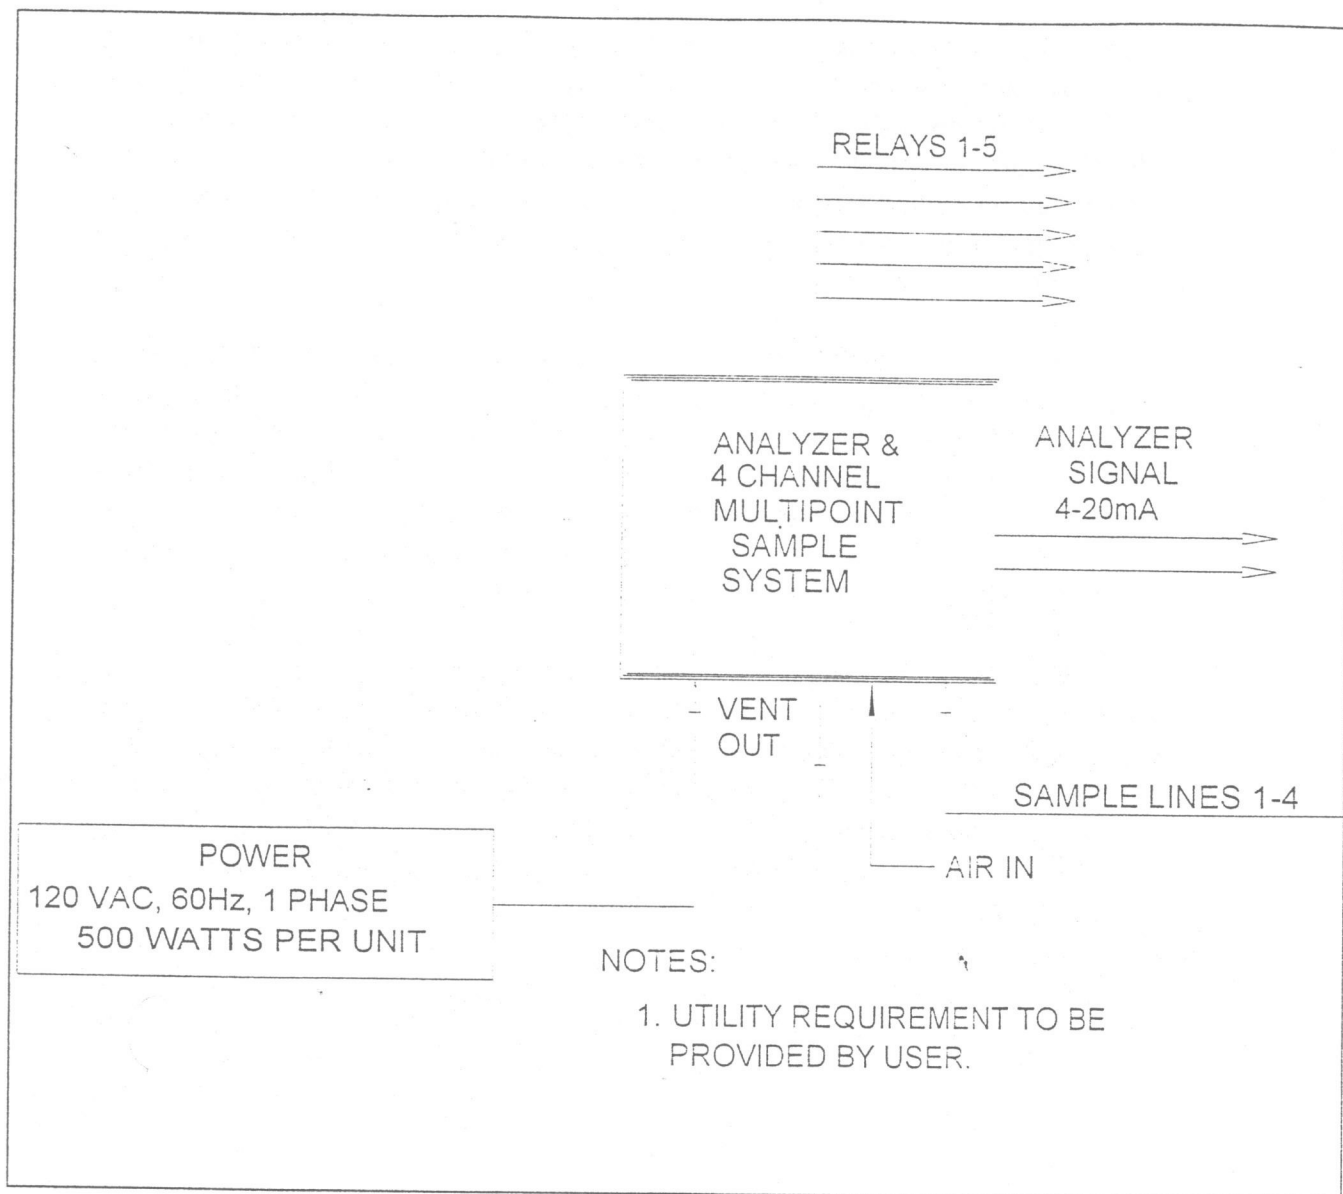

Figure 1.1 BLOCK DIAGRAM OF AS-IMS SYSTEM
The Molecular Analytics (MA) AirSentry Ion Mobility Spectrometry (ASIMS,) is depicted on the block diagram in Figure 1.1. This manual covers only the analyzer component. For specific information and system parameters, and interconnect diagram see Appendix E "Customer Specific Information". The analyzer may or may not have been supplied with various internal options such as: on-board calibration (OBC), stack sample system, air cleanup unit (ACU). Please refer to the separate manuals supplied with these external devices (if supplied) for greater detail. Some systems may be supplied as an integrated package, with various options. Please refer to the interconnection diagrams in Appendix E prior to installation.